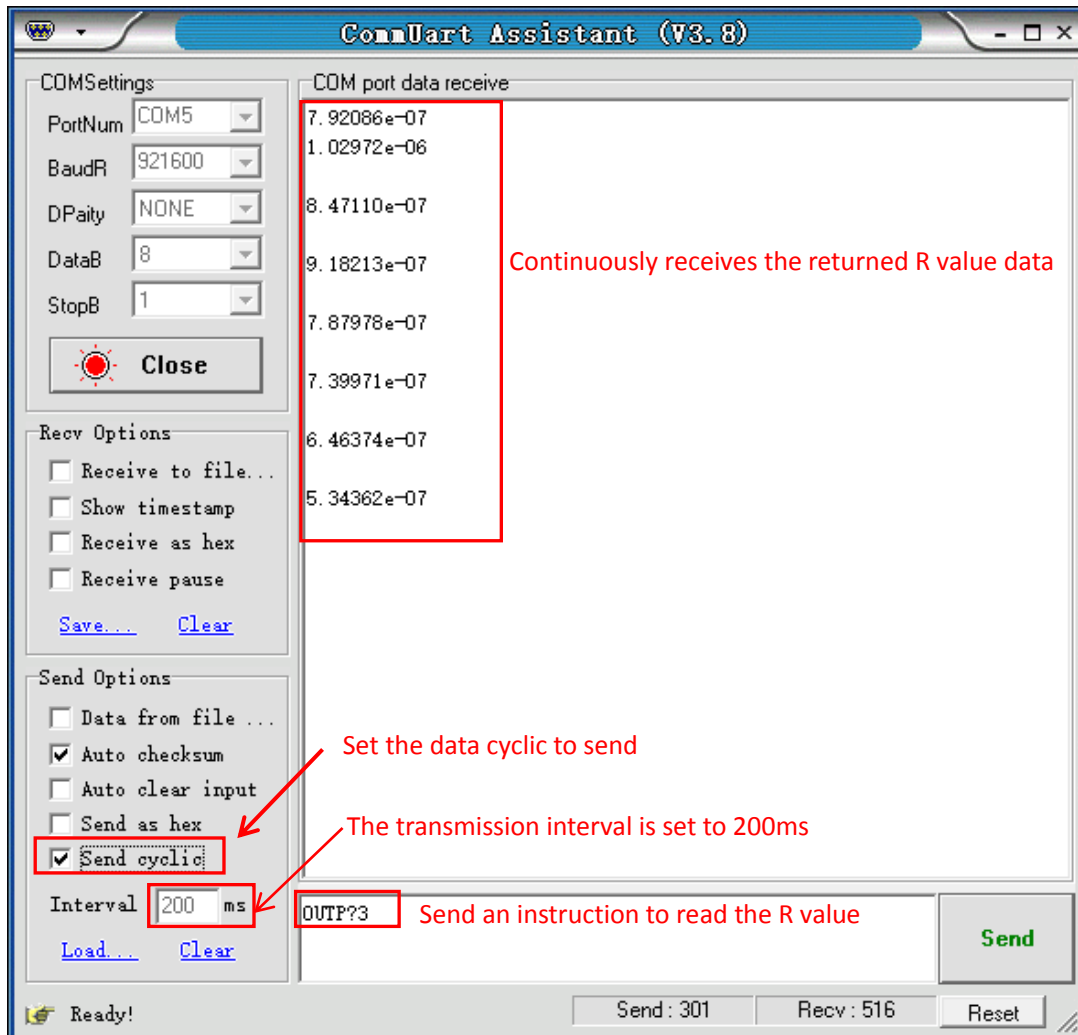
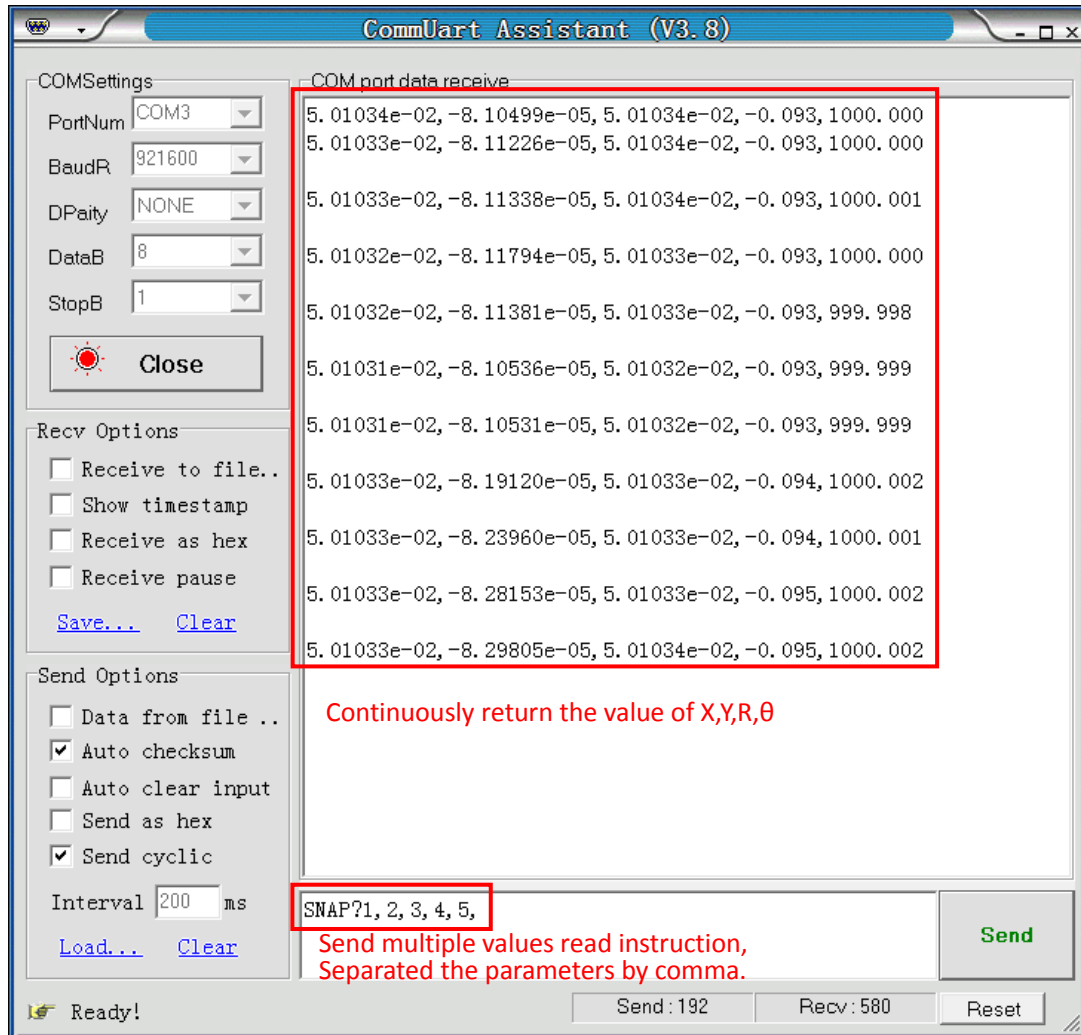

Fig.113 Continuous read single R value
Fig.114 Continuous read the Value of X, Y, R θ and Freq
4) If you want to read $\langle X \rangle$, $\langle Y \rangle$, $\langle R \rangle$, $\langle \theta \rangle$ and Freq continuously, you can set the transfer pause time as Fig.113 and Fig.114.